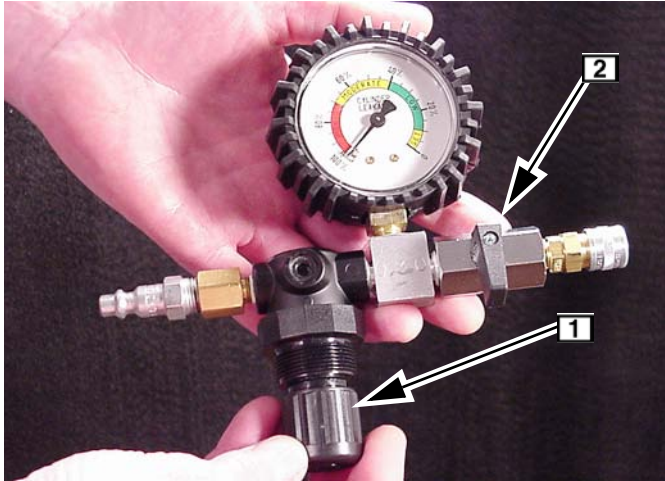

Fig. 23
5. Pull the regulator adjustment knob **1** out and turn knob counterclockwise as far as it will go, Fig. 23. Make sure air outlet valve **2** is closed.